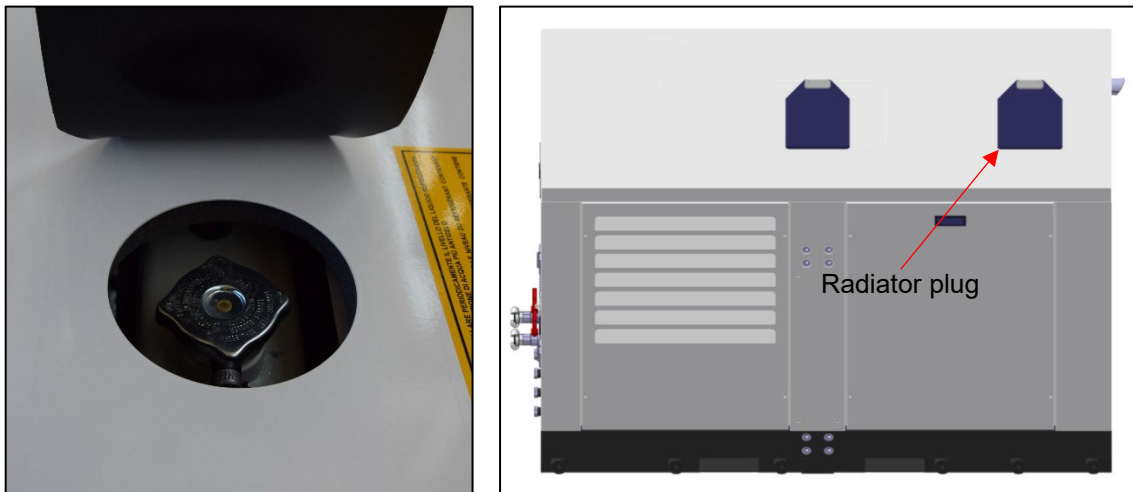

Figure 10.1-3 Checking the radiator cooling liquid
- 6 If the motor compressor is equipped with a liquid-cooling diesel engine, check the level of the cooling liquid contained in the radiator (Figure 10.1-3).
WARNING: the radiator plug (Figure 10.1-3) must never be removed when the engine is hot: this would cause a sudden outflow of liquid which might cause severe scalding. Topping up - if required - must be made by means of a blend of water and anti-freeze liquid, in the percentage indicated on the container of the latter.